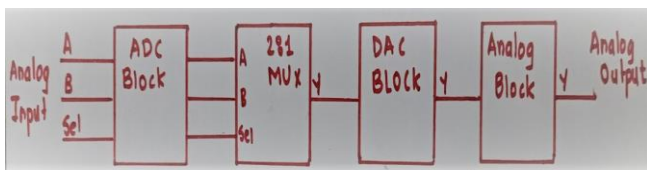

Figure 1: Digital Block
Multiplexer (MUX) is a data selector which will send single input data at the output based on select line input. Here we have implemented a 2:1 MUX which has 2 inputs (A and B), 1 output (Y) and 1 select line (S). Output Y will be A or B based on 0 or 1 input at the select line (S). If the select line is "0" output Y will be A and if the select line is "1" then output Y will be B. 2:1. The equation for output Y will be $Y = AS^{\text{bar}} + BS$. The complete design is divided into two parts Digital Block and Analog Block. Here, we will be using Verilog Hardware Description Language for implementation. We will implement the code using Makerchip software and implement the Circuit schematic using esim software. We know that mixed signals contain both analog and digital blocks hence we need ADC and DAC blocks to convert the signals from analog to digital. Figure 1 shows the Digital Block of the circuit and Figure 2 shows the Circuit Schematic i.e., Analog Block of the circuit. In the Circuit Waveform, we will verify the above implementation using clock pulse. Output Y will have the same clock pulse sequence as A when S will be "0" and it will have the same clock pulse sequence as B when S will be "1".